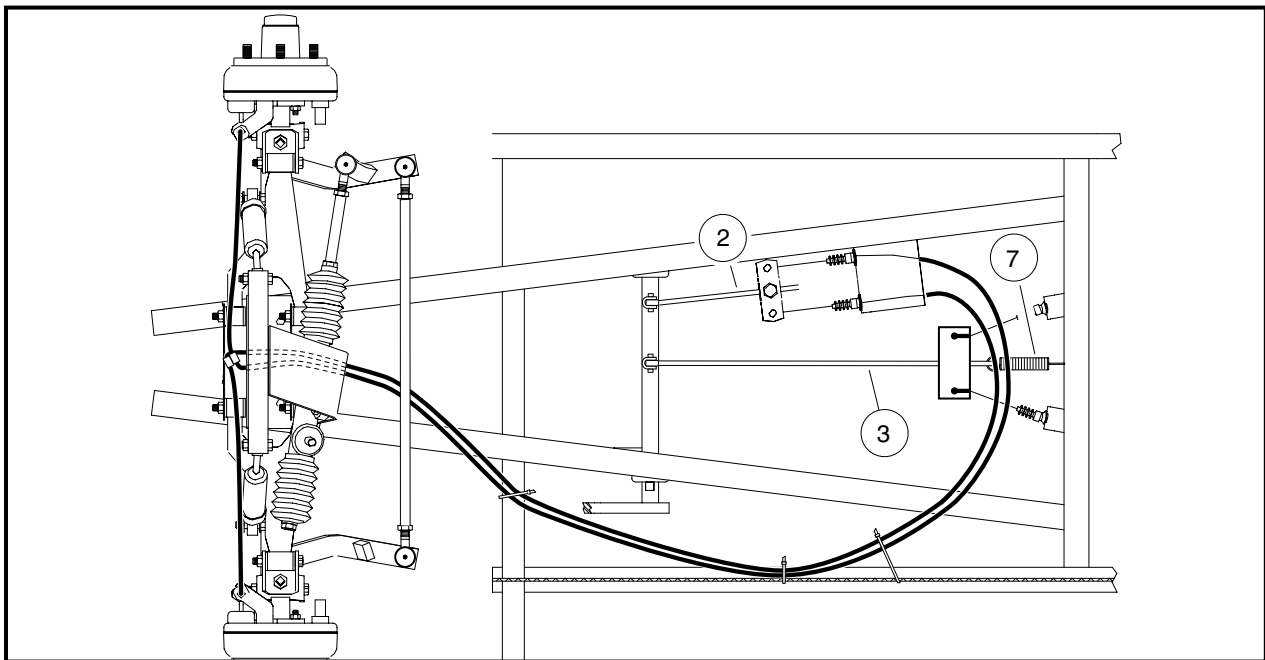

Figure 6-37 Front Brake Cable Routing
3. Route cable towards the rear of vehicle and over to the driver-side I-beam and secure with wire ties so that the brake cable does not touch the brake equalizer (Figure 6-37, Page 6-22).
- For Turf 2, Carryall 2 and Carryall 2 Plus vehicles, the cable should pass over the inside I-beam (**Figure 6-37, Page 6-22**).
4. Route cable along I-beam towards front of the vehicle and secure as shown (**Figure 6-37, Page 6-22**).